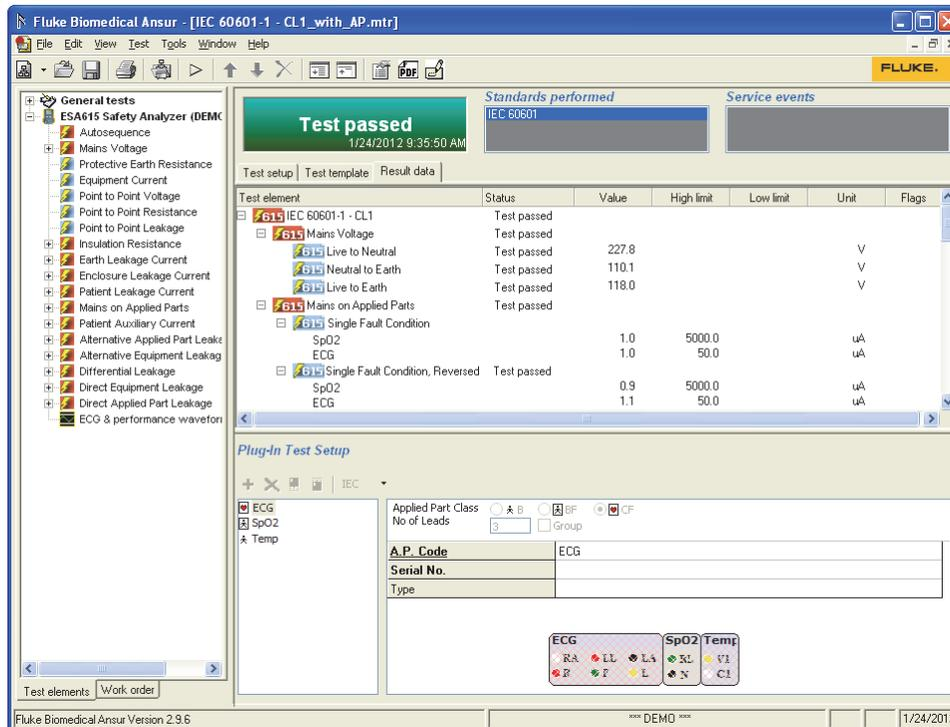

Figure 3-15. ESA615 Test Record
3. To make a Test Record, click the **Next** button (➡). The test summary window closes and a test record is opened in the main Ansur window as shown in Figure 3-15.